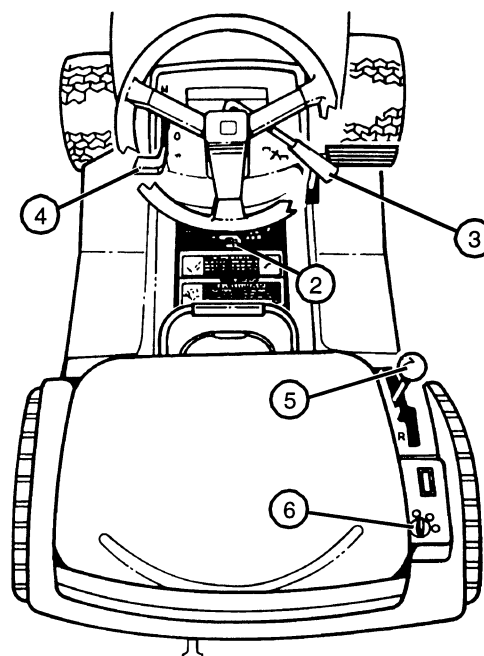

FIG. 17
- Place gearshift lever (5) in neutral (N) position. (See Fig. 17)
- Move PTO drive lever (3) rearward to off position.
- Lock the park brake (2).
- Move throttle lever (4) rearward to low throttle position. Let engine run at low throttle a few seconds.
- Turn ignition key (6) to off position.